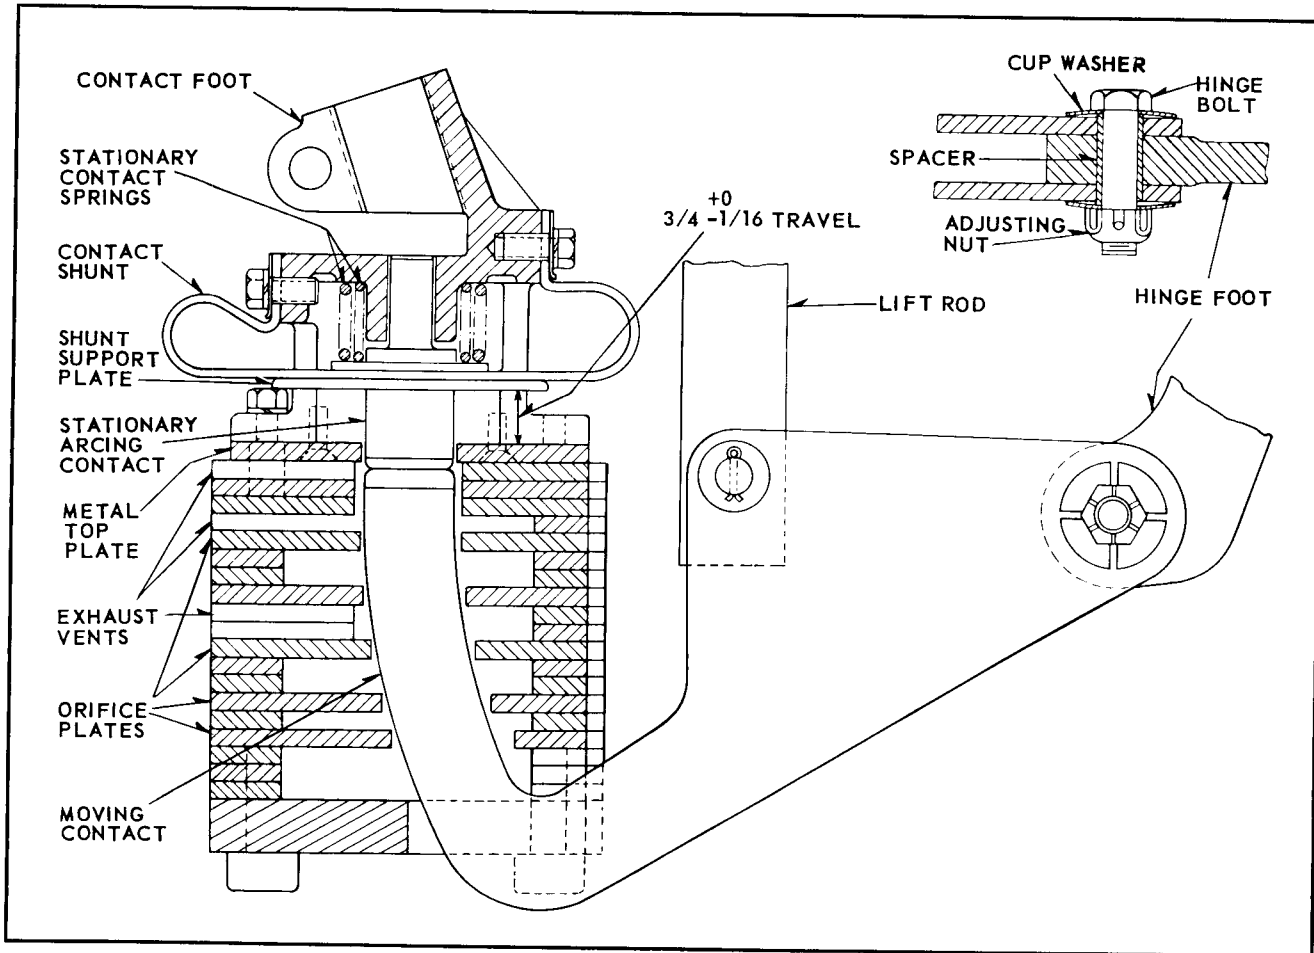

Fig. 8 De-ion Grid and Contact Assembly
As may be seen in Fig. 8, butt contacts are used in order to get high speed contact parting time. The stationary and moving contacts are both tipped with silver tungsten which provides sufficient conductivity for both the 600 and 1200 ampere continuous-current ratings while at the same time providing good resistance to arc erosion. It will be noted that a single interrupter per phase is used, so that the moving contact is hinged on one side which eliminates the need for a lift rod guide.
1. Refer to contact assembly, Fig. 8. With the breaker closed and latched, the stationary arcing contact should be  $3/4 + 0 - 1/16$ " above its open position. This may be observed by looking through the opening at the rear of the contact foot and checking the height of the shunt support plate above the metal top plate on the grid stack.